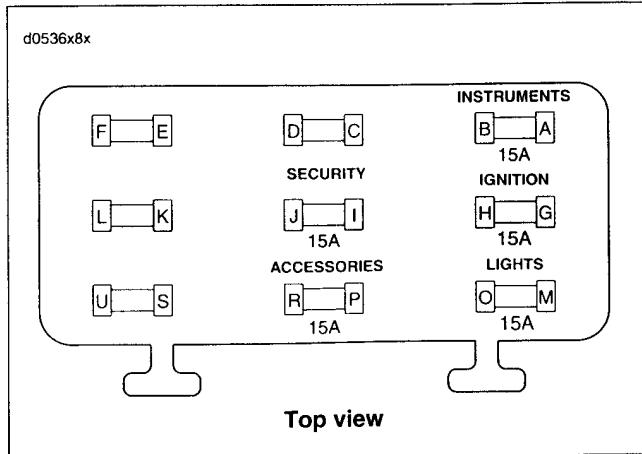

Figure 8-21. Fuse Functions
2. See Figure 8-21. Replace suspect fuse.